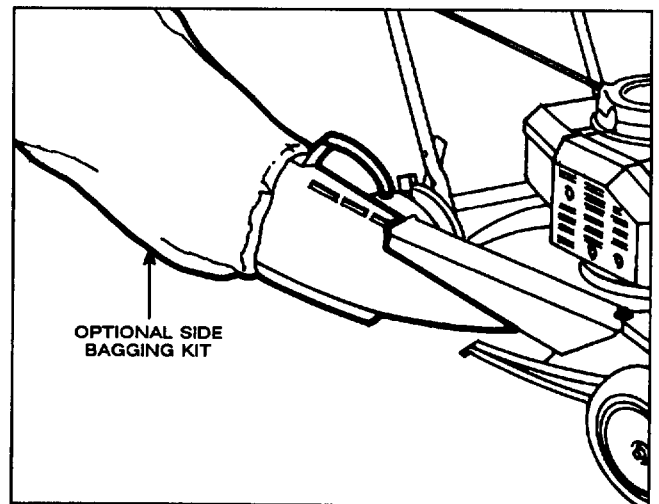

Figure 27
1. **Side Discharge Bagging Kit, Model No. 47-6510**—Side bag kit (Fig. 27) lets you bag lush grass in spring to help keep your lawn free of clippings. In the fall, bag leaves while you mow to eliminate the hand-blistering raking job.